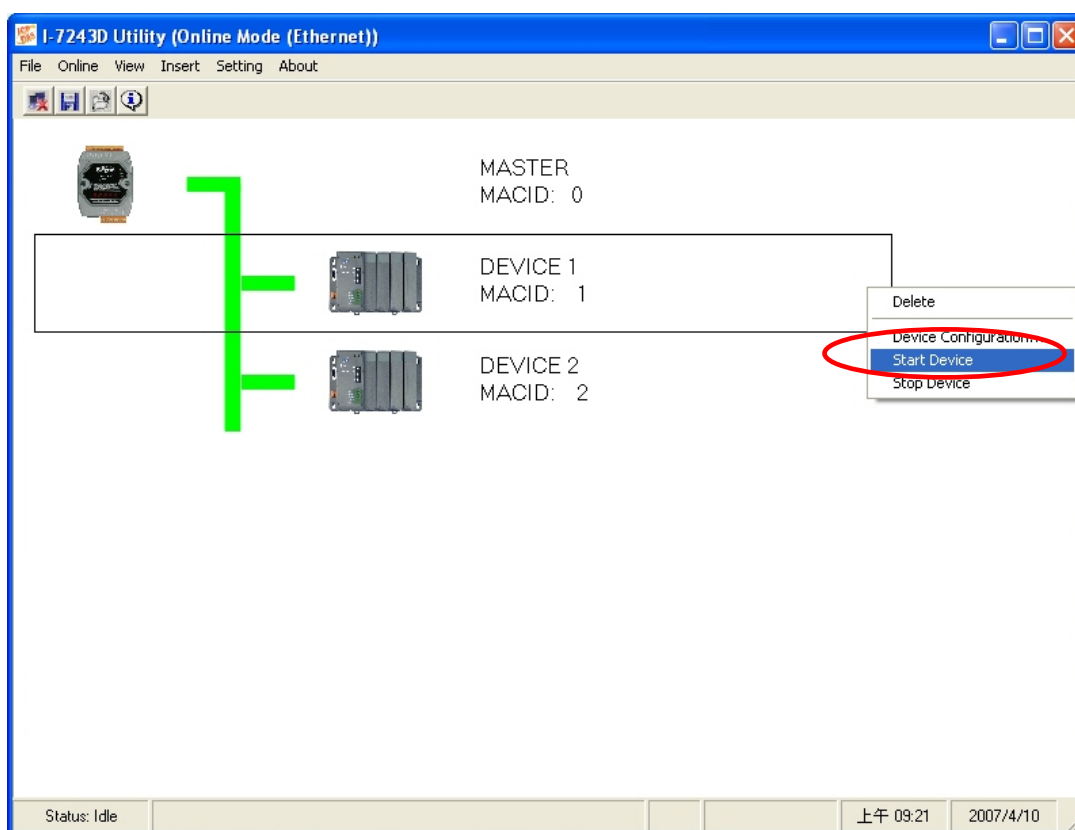

Figure 5-24: Start/stop communicating with DeviceNet devices
1. Click left of the mouse button on device that you want to start or stop. Select the “Setting” item on the menu bar, or click right of the mouse button on the device, then click the “Start Device” item or “Stop Device”. Then the I-7243D will start/stop to communicate with the DeviceNet device. As shown in figure 5-24.